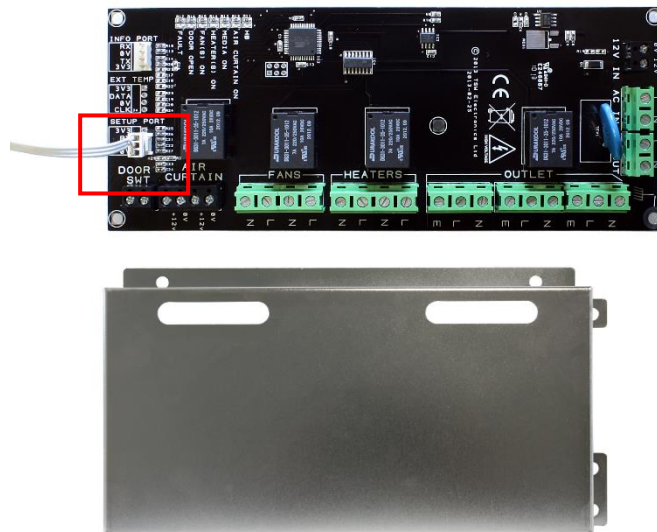

Figure 2
- Connect the USB cable to your computer and the 3-pin internal connection to the setup port (highlighted red) on the controller board; located on the left hand side, third from the top (figure 2).